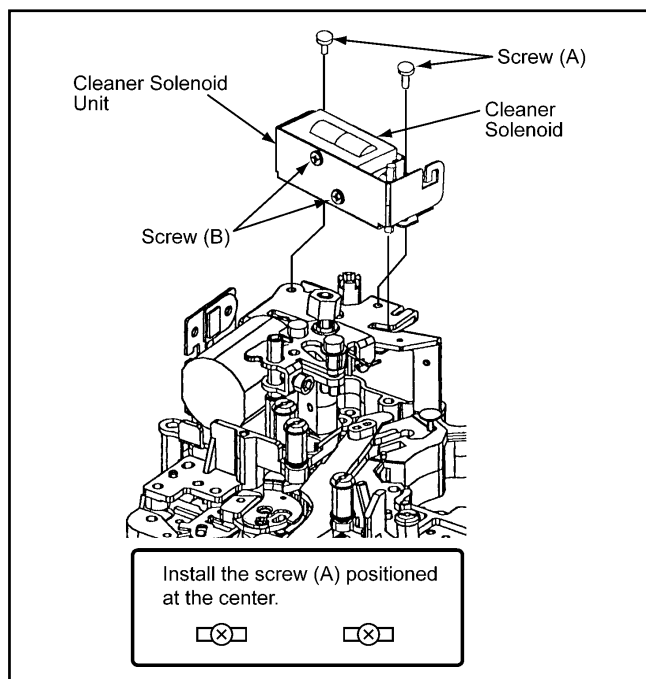

Figure 2-8-1
2. Unscrew the 2 screws (A) as shown in Figure 2-8-1, and remove the Cleaner Solenoid.